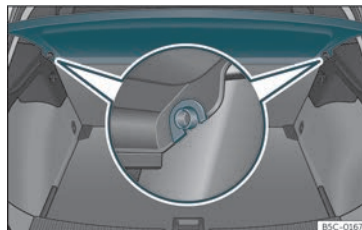

Fig. 115 In the luggage compartment: removing and fitting the shelf.
- Remove the rear shelf from the side supports»» Fig. 115 by pulling it upwards and then take it out.
- Insert the cover horizontally so that the “recess” fits onto the axis of the supports »» Fig. 115 and press down until it engages.